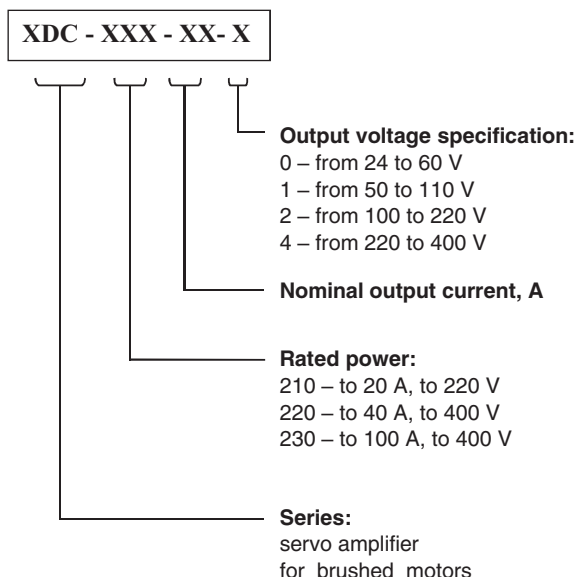

Fig. 1.1. The model designation of the servo amplifiers
1.1.2. The model designation is shown in Fig. 1.1.